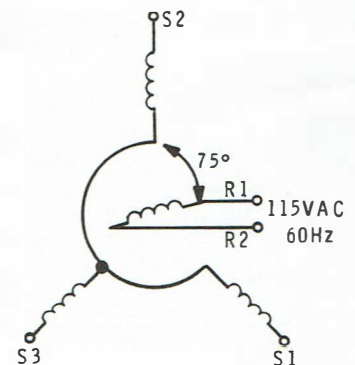

Figure 8-37
4. With the rotor of the synchro transmitter, shown in Figure 8-37, turned  $75^\circ$  in the clockwise direction from its reference position, which of the following voltages will be induced in the S1, S2, and S3 windings respectively?